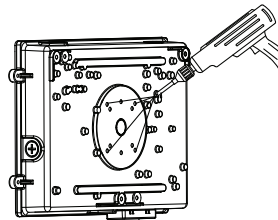

Figure 10
5. Drill through the mounting holes on the j-box template according to the application's requirements. (see Fig. 10)